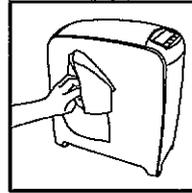

Fig. 43
- Wash the outside surface of the air washer with a damp cloth (Fig. 43).